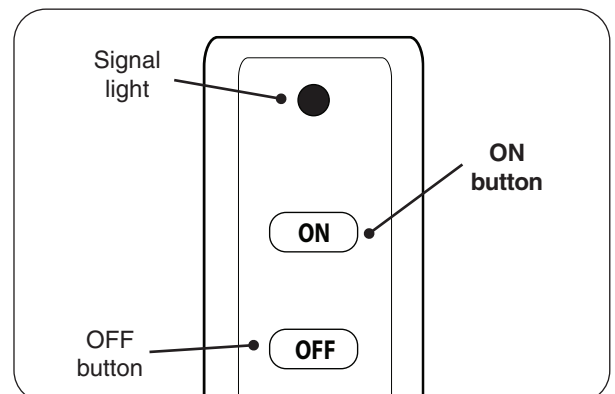

Fig. 33-3 Remote transmitter detail
4. Locate the remote transmitter and press the **ON** button (see Fig. 33-3). The ignition sequence will begin.